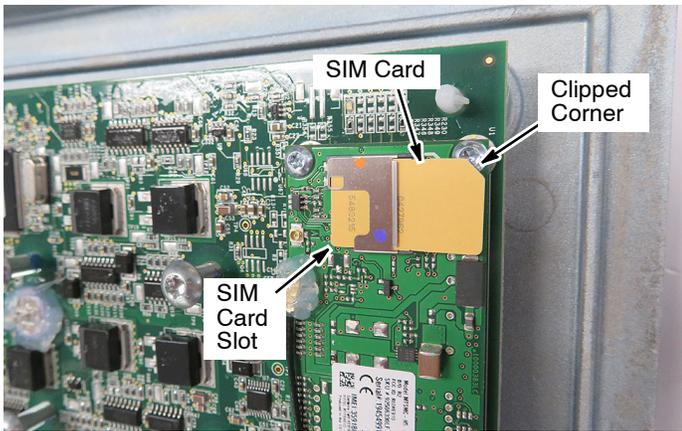

Fig. 11
- Fully insert the SIM card into the new IRIS circuit board card slot as shown (Figure 11).